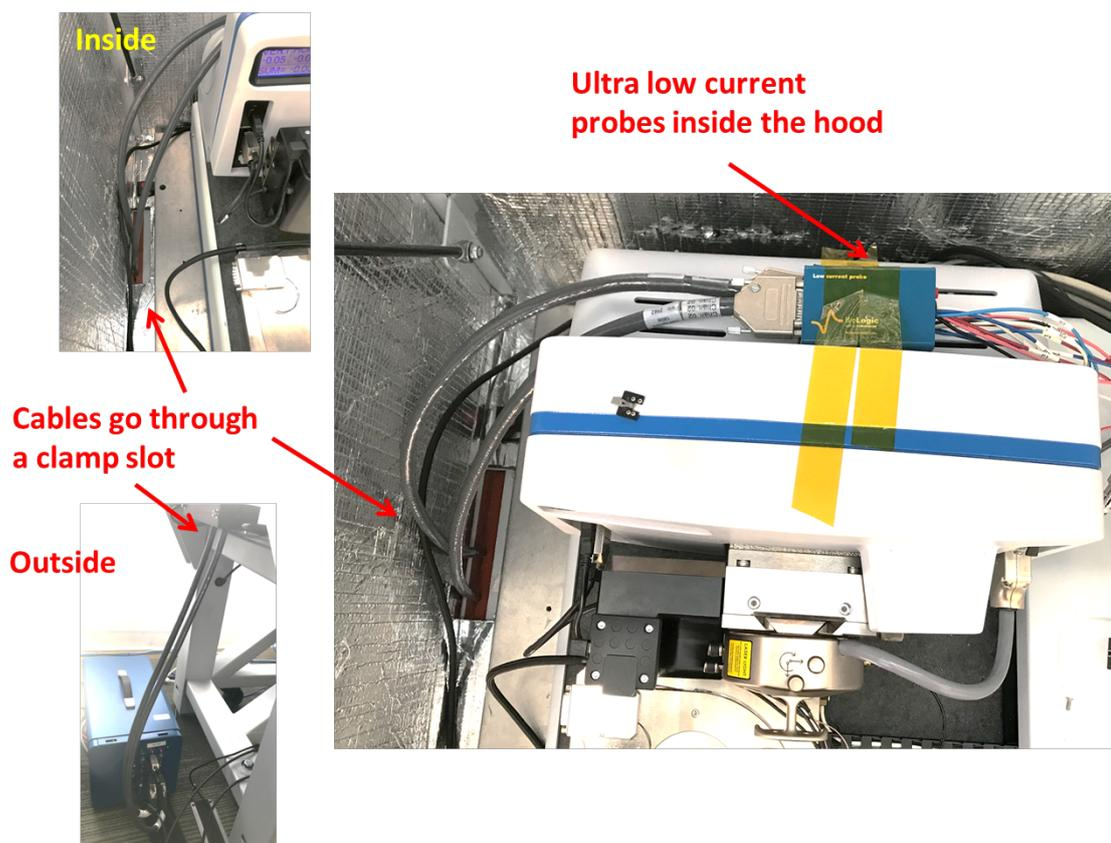

Figure 1. Low Current Probes (or Amplifiers) located inside the AFM hood, an effective Faraday cage. Cables are routed through a sealed clamp slot.
3. Both ultra-low current probes (or amplifiers) on the end of the two SP-300 cables **MUST** be inside the AFM hood as shown in Figure 1, to get a noise level of ~ 10 pA at 10 nA current range with a 1 kHz filter. The AFM hood acts as a Faraday cage for the experiment.